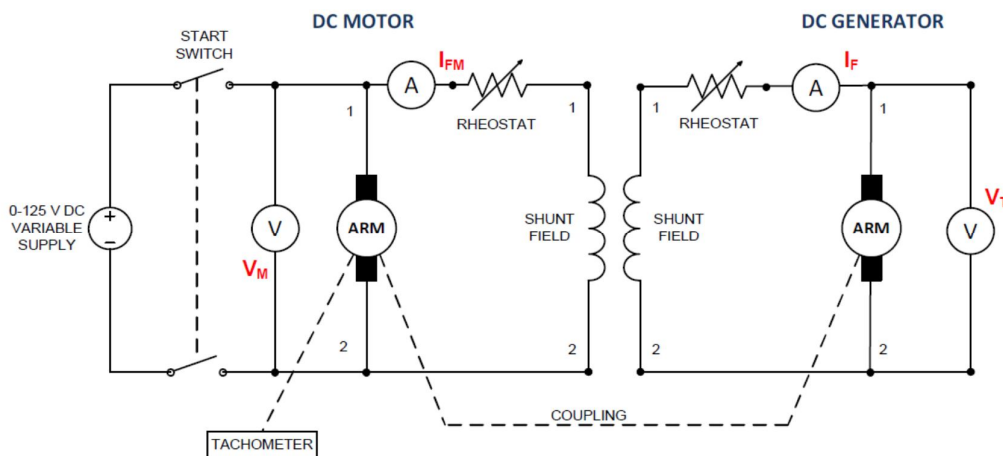

Figure 1.2
- 4 Make the motor connections shown in Fig. 1.2 but do not turn the power ON yet. Turn the knob of the 0-125 variable DC supply fully counter clockwise to its zero position. Turn the motor's field rheostat knob fully counter clockwise to its minimum resistance position.
- 5 Make the generator connections shown in Fig. 1.2 Turn the generator's field rheostat knob fully clockwise to its minimum resistance position.